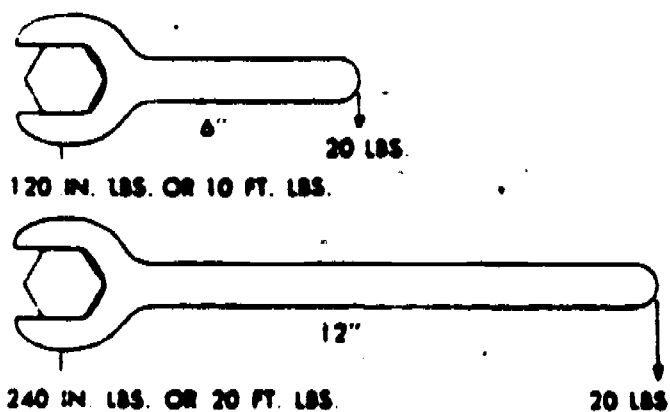

Figure 1. Torque.
wrench, a torque of 120 inch-pounds or ten (10) foot-pounds will be placed on the bolthead being tightened, as shown in figure 1. If the same force (20 pounds) is applied to the end of a wrench twice as long (1 foot), we will have 20 foot-pounds of torque.
In figure 1, the wrench is used as a lever, and by using longer levers, it is possible to obtain greater torque multiplication. Similar examples can be made with pulleys, block and tackle, inclined planes or wedges and screws. All of these devices actually function on one basic principle. The principle is that if a machine is utilized to increase force, the larger output force cannot move as far as the smaller, original input force. Thus, when force is increased, distance is sacrificed. In thinking of automotive transmissions, the idea of increasing force at a sacrifice of distance means that to increase or multiply torque requires a reduction of speed. If a transmission is required to multiply torque four times, then the input shaft speed in RPM will have to be four times the output shaft speed RPM.